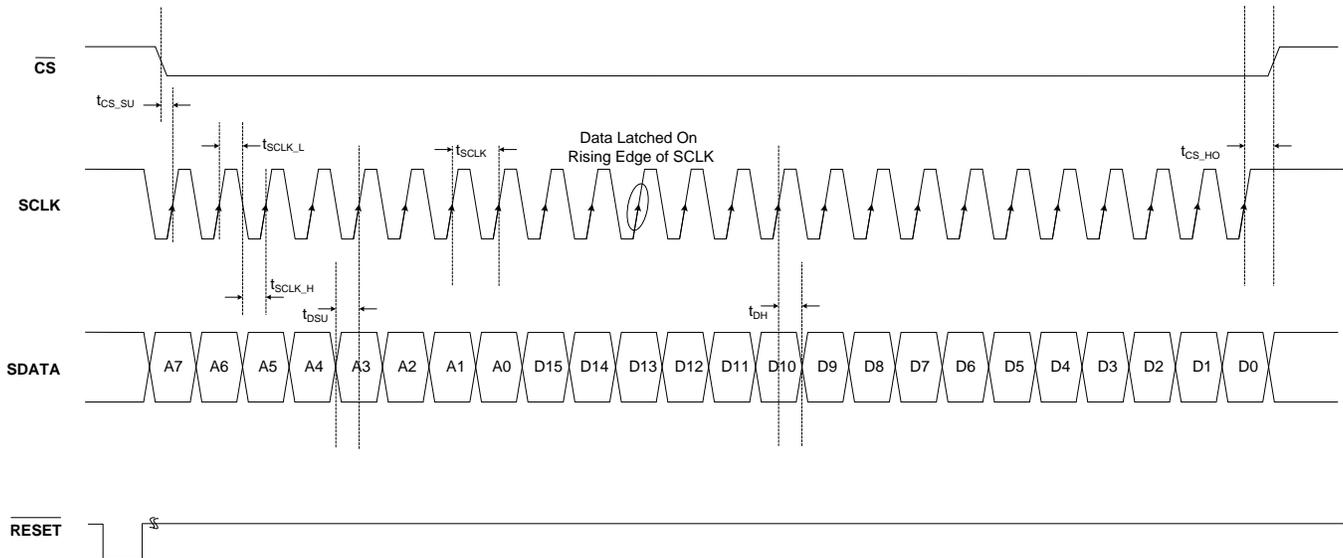
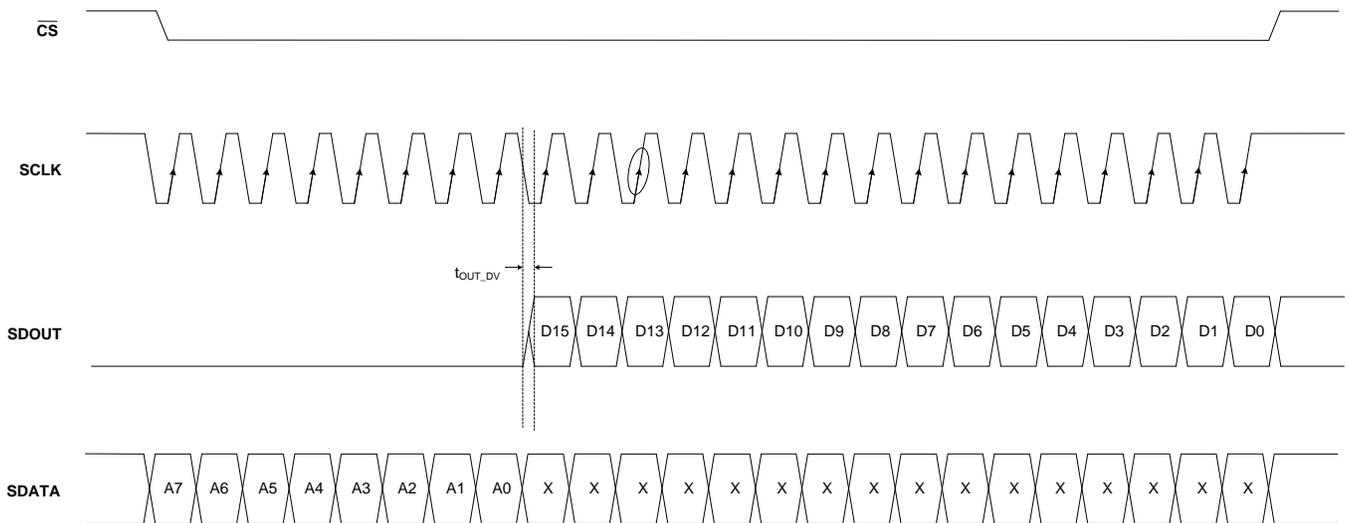

Figure 74. Serial Interface Write Timing Diagram
Figure 76. Serial Interface Read Timing Diagram
1. Either through a hardware reset by applying a low pulse on the \overline{RESET} pin (of widths greater than 50 ns), see Figure 74; or
Table 7. Timing Characteristics for Figure 74 and Figure 76⁽¹⁾
(1) Typical values are at $T_A = +25^\circ\text{C}$, minimum and maximum values are across the full temperature range of $T_{MIN} = -40^\circ\text{C}$ to $T_{MAX} = +85^\circ\text{C}$, unless otherwise noted.
(2) See Figure 76.
To exit serial readout mode, reset the EN_READOUT register bit to '0', which enables writes to all device registers. At this point, the SDOUT pin is in 3-state. A detailed timing diagram for the serial readout mode is shown in Figure 76.